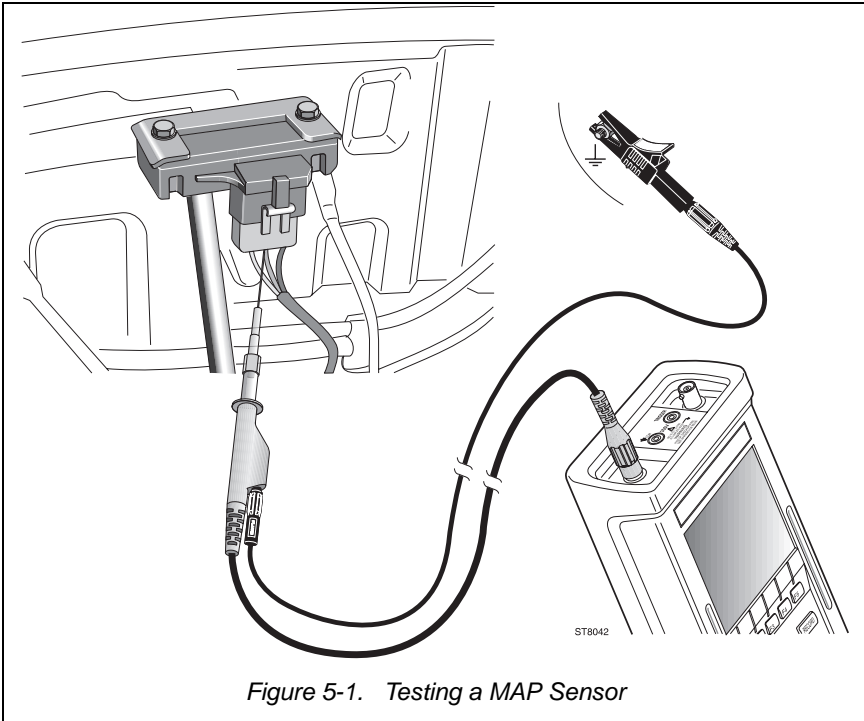

Figure 5-1. Testing a MAP Sensor
①
②
- ③ Connect the test leads as displayed by the test tool's Connection Help banner and as shown in Figure 5-1.
④  Starts the Digital MAP sensor test.
⑤  If necessary, use the arrow keys for ranging. You can use INTERMITTENT RECORD to log the test results.